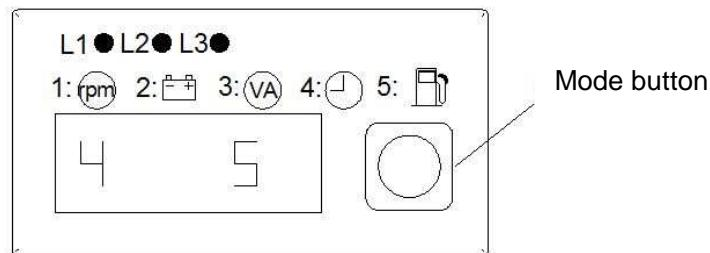

Figure 19
(1) Figure 19 is the display of running hrs. When the mode button selects mode 4, the display shows generator running hrs.